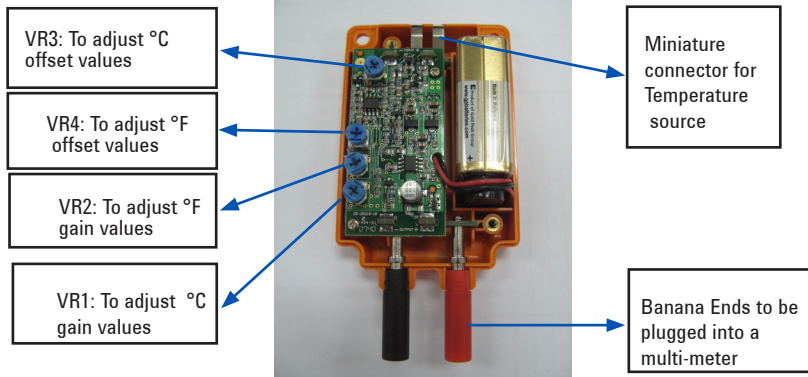

Figure 1: U1586B Adjustment Diagram
9. Look for VR3 (refer to Figure 1 for the location of VR3 in the adjustment diagram) and carefully adjust the variable resistor using a small Phillips tip screwdriver until the display of the multimeter meets the required reading of 0.0 mV ± 0.2 mV.
9. Look for VR1 (refer to Figure 1 for the location of VR1 in the adjustment diagram) and carefully adjust the variable resistor using a small Phillips tip screwdriver until the display of the multimeter meets the required reading of 300.0 mV ± 0.2 mV.
9. Look for VR4 (refer to Figure 1 for the location of VR4 in the adjustment diagram) and carefully adjust the variable resistor using a small Phillips tip screwdriver until the display of the multimeter meets the required reading of 32.0 mV ± 0.2 mV.
9. Look for VR2 (refer to Figure 1 for the location of VR2 in the circuit diagram) and carefully adjust the variable resistor using a small Phillips tip screwdriver until the display of the multimeter meets the required reading of 572.0 mV ± 0.2 mV.